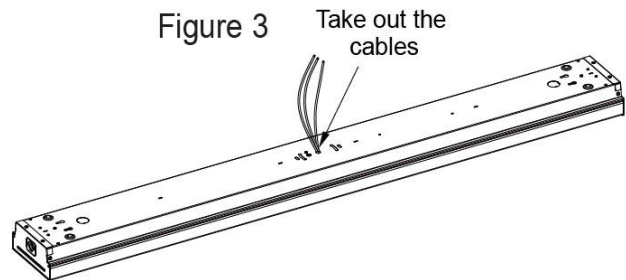

Figure 3
2. Take out the cables from the lamp base. (Figure 3)